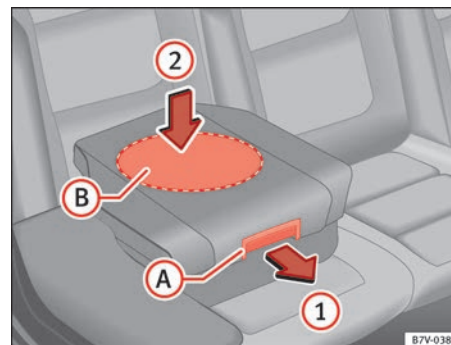

Fig. 33 Integrated child seats, lowering the cushion.
- Pull the unlock lever ⇒ fig. 33 (A) on the cushion in the direction of the arrow ①.
- Push the cushion down through the *central* area (B) in the direction of the arrow ② until it safely engages ⇒ ④. The side supports fold away automatically.